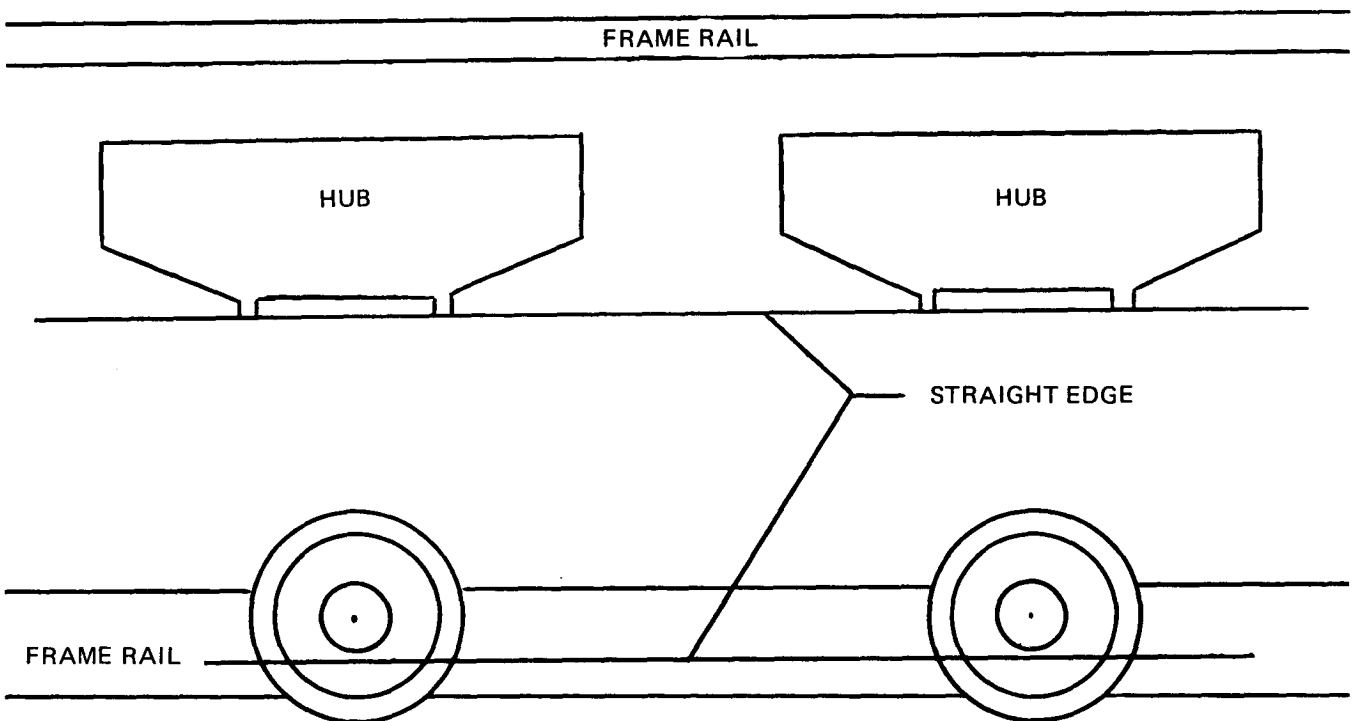

Figure 3 — Left or Right Rear Suspension
Bent Control Arm (Figure 3)
3. Place a straight edge across the face of the hubs as shown in Figure 3.
4. The straight edge should lie flat on each hub as shown in Figure 3. If the straight edge does not visibly rest on both points of each hub, a bent control arm will be evident and it should be replaced.